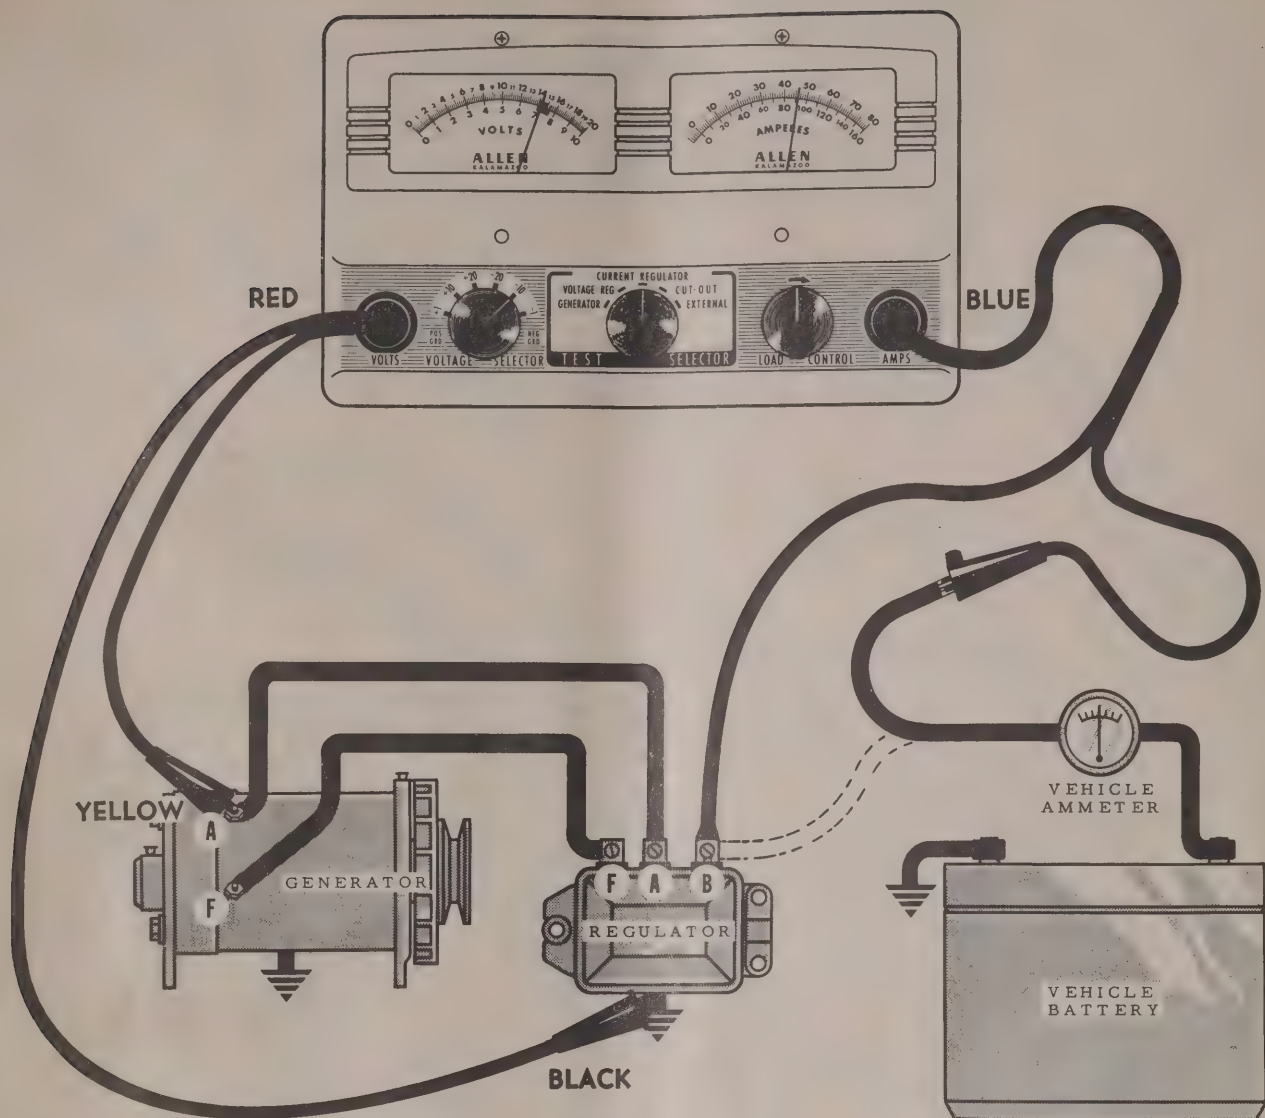

FIG. 8
2. Make connections as shown, Figure 8.